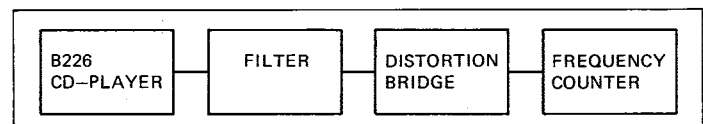

Fig. 4.17
→ Fig. 4.17
- Measuring circuit according to Fig. 4.17 with distortion measurement filter on the VARIABLE OUTPUT [2].